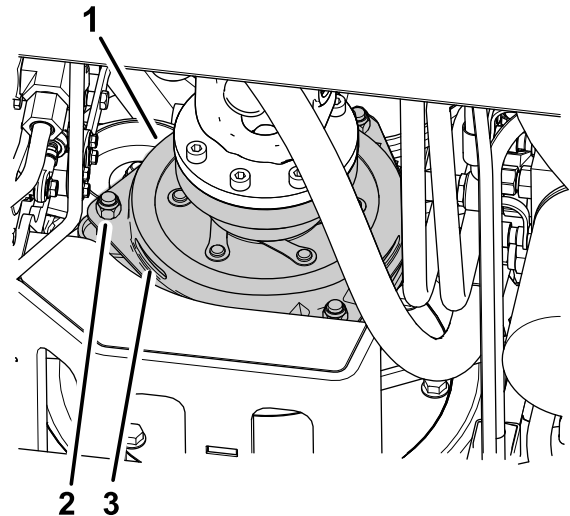

Figure 75
3. Adjust the air gap so that a 0.3 mm (0.012 inch) feeler gauge slides in between the clutch lining and friction plate with light pressure (Figure 75).
**Note:** You can decrease the gap by turning the adjusting nuts clockwise (Figure 75). The maximum service gap is 0.6 mm (0.024 inch). Adjust all 3 air gaps to 0.4 mm (0.012 inches).